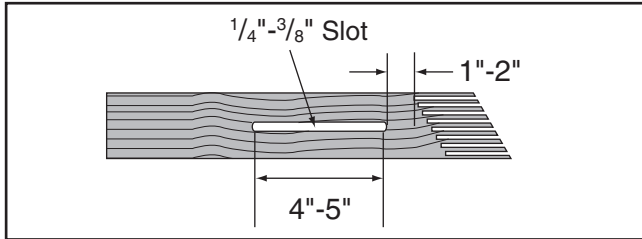

Figure 68. Slot routed in featherboard.
4. Rout a $\frac{1}{4}$ "– $\frac{3}{8}$ " wide slot 4"–5" long in the workpiece and 1"–2" from the short end of the featherboard (see **Figure 68**).